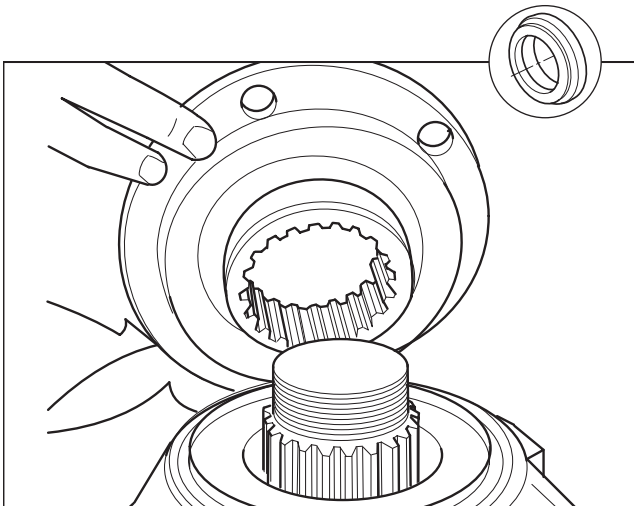

Fig. 2.18
18. Inspect dirt shield for damage. (Fig. 2.18)